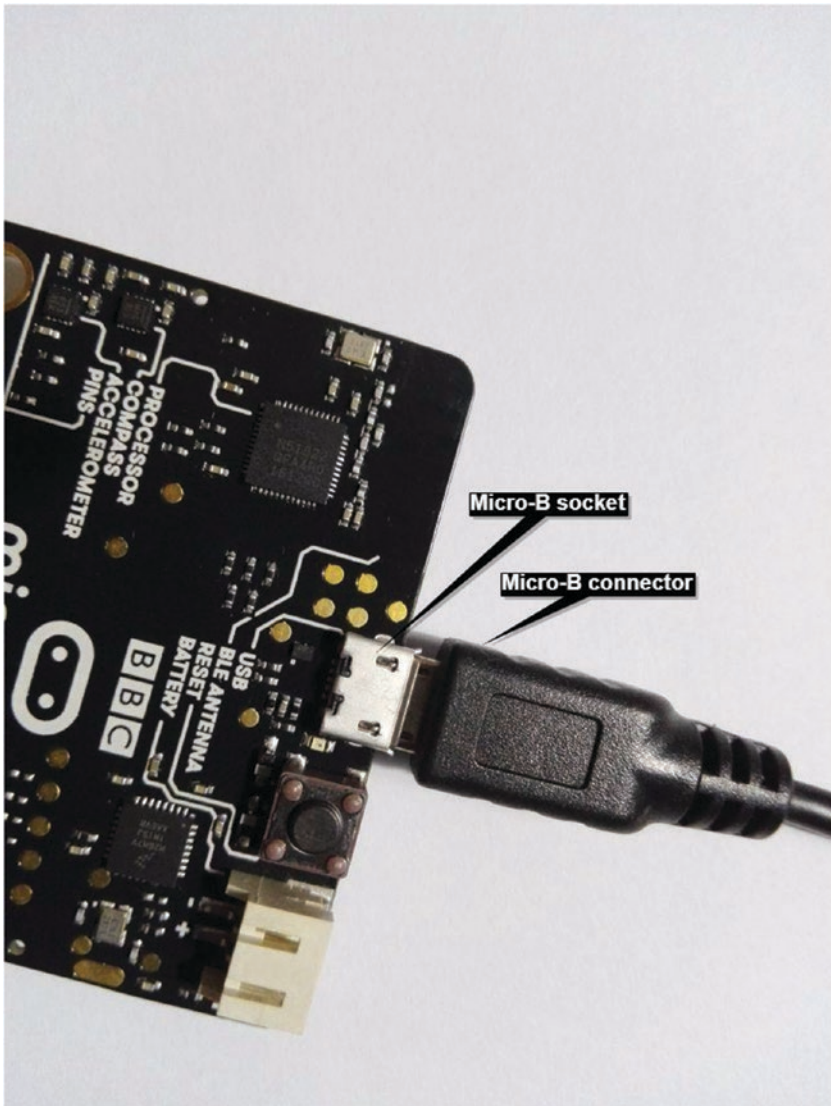

Figure 1-15. Connecting the Micro-B connector to the Micro-B socket
1. Connect the Micro-B connector of the USB cable to the Micro-B socket of the micro:bit (see Figure 1-15).